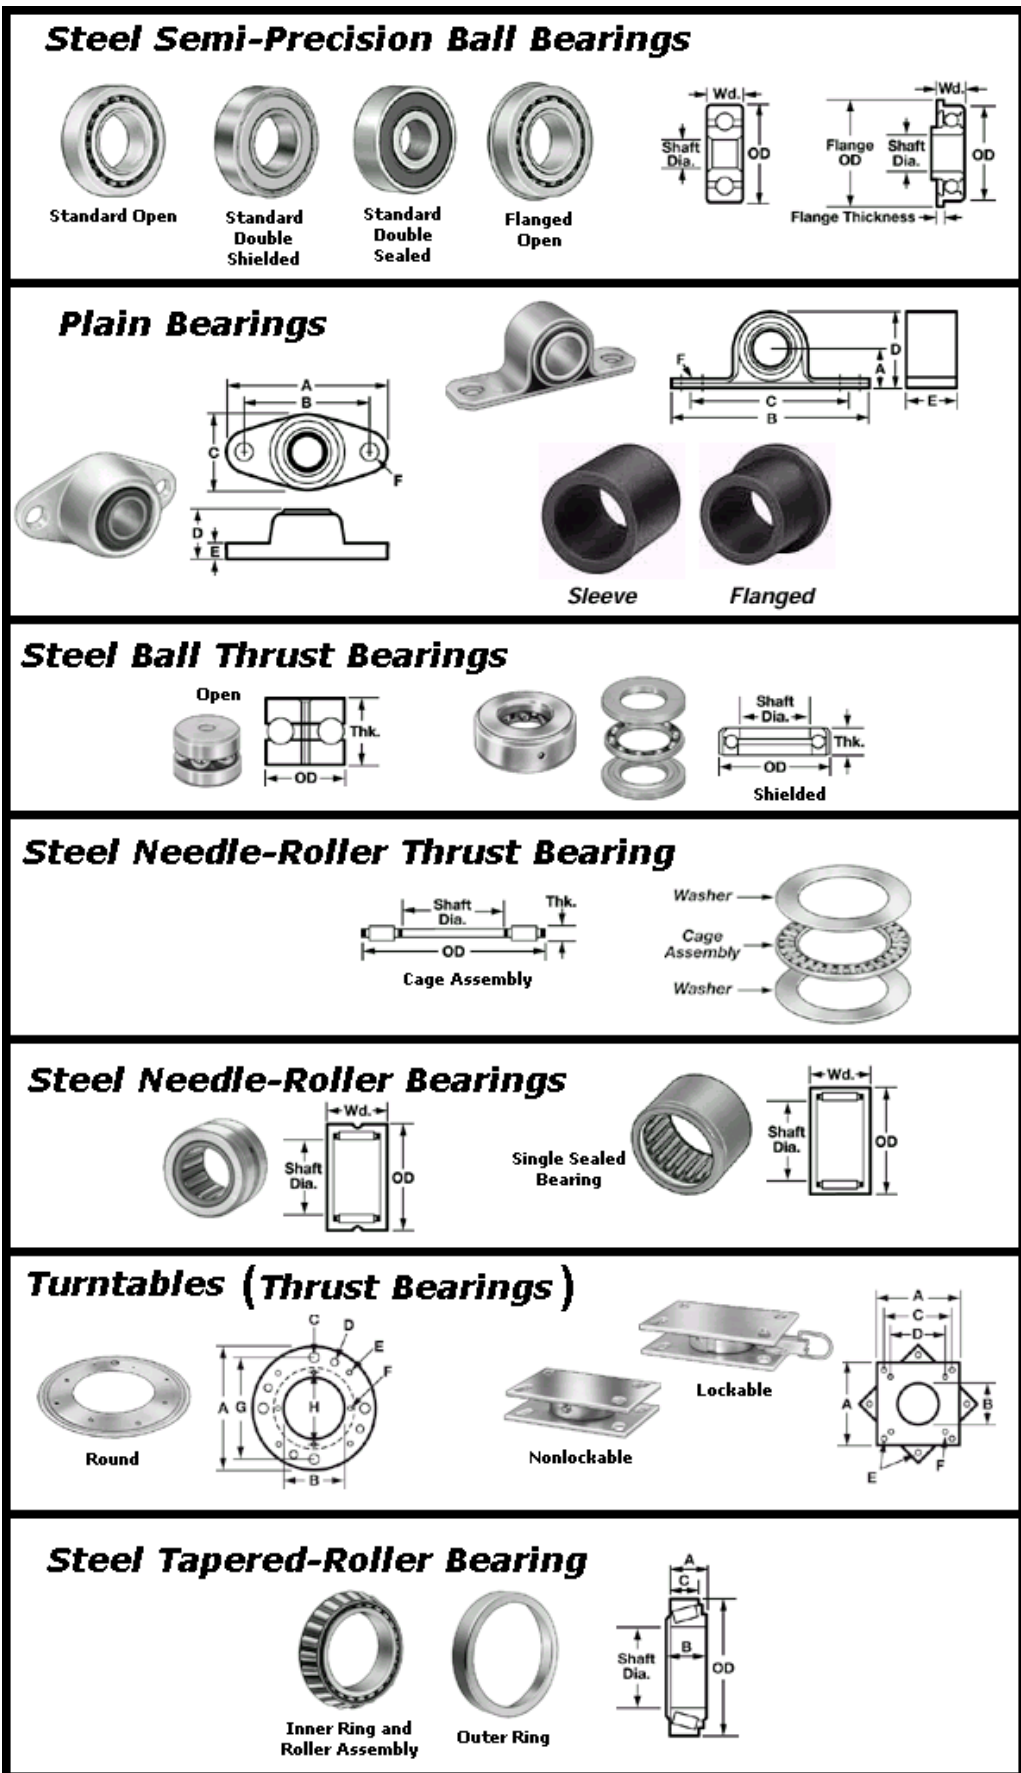

Figure 1.13: Common Bearings (found at: <http://www.mcmaster.com/>)
**Thrust bearings** allow rotation of the shaft, but prevent the translation of the shaft along the axis of the shaft/bearing (see figure 1.13). Consider the hinges of a door. Hinges are constructed to act as a thrust bearing, preventing the door from sliding along the hinge pin and resting on the floor. Thrust bearings are found on all motor shafts, swiveling chair seats, "lazy susan" mechanisms and thousands of other places.